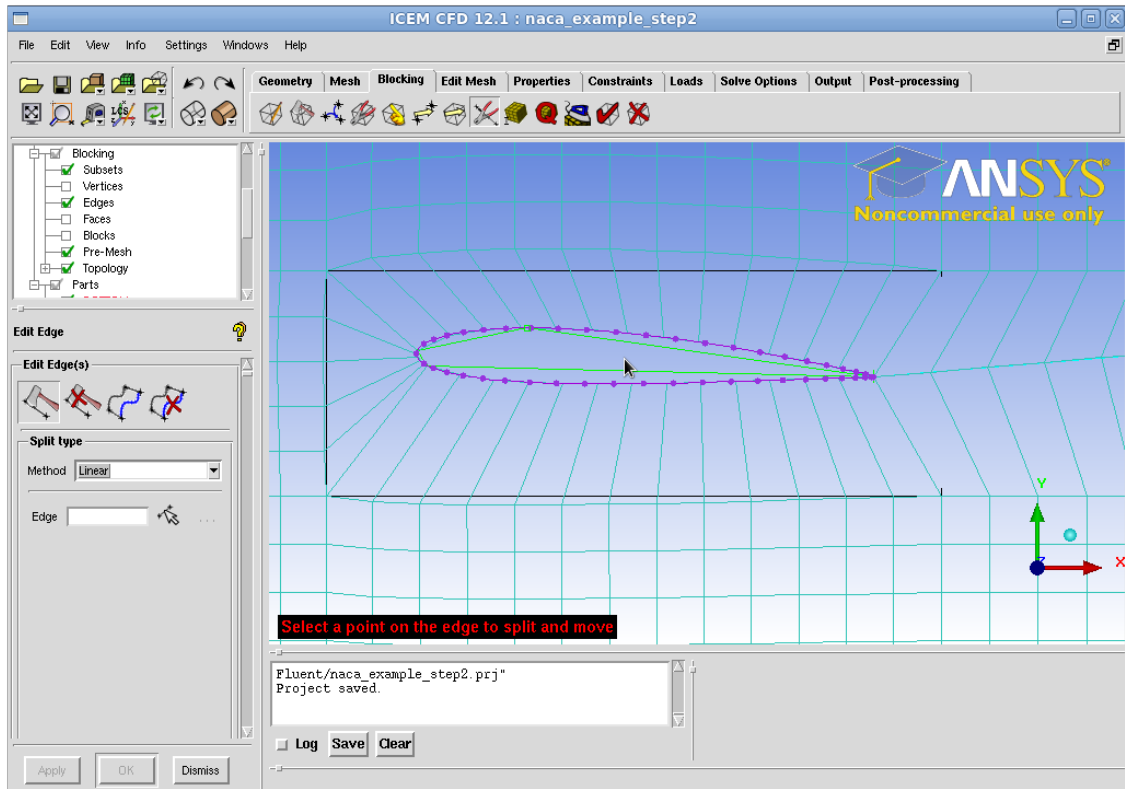

Figure 9: Setting up the Linear Point to Snap the Mesh to the Outside of the Aerofoil
- This should look like Figure 9.